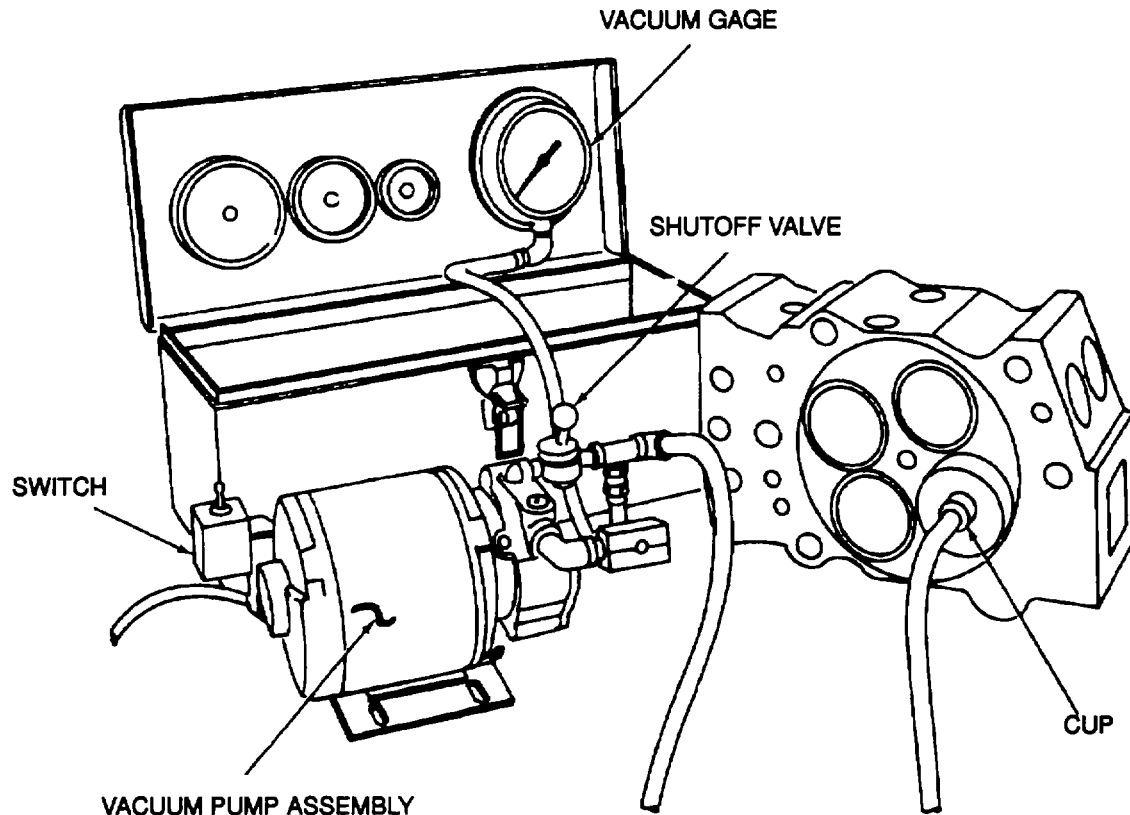

Figure 9-11. Vacuum Testing Valve Seats Using ST-1257
- (4) If necessary, add a maximum of two valve spring shims under the valve spring guide (4), to adjust the assembled valve spring height to not over 2.470 inches (62.74 mm).
- (5) If the correct valve spring assembled height cannot be obtained with two shims, the valve, the seat insert, or both the valve and the seat insert must be replaced. See paragraph 9-11 for valve seal insert replacement procedures.
- (6) Remove locks (1), seats (2), spring (3), and guide (4). Install shims (if necessary), guide (4), spring (3), and seat (2) over valve (5 or 6).
- (7) Using valve spring compressor ST-448-6, compress spring (3), and install new locks (1).
- (8) Install the remaining valves using steps (1) through (6), above.
- f. Vacuum Test. Check for satisfactory valve sealing using valve vacuum tester ST-1 257, as follows (see Figure 9-11):
- (2) Coat the seal with petrolatum VV-P-236, and place the cup over the valve so that the seal rests on the head surface (Figure 9-11).
- (3) Operate the vacuum pump to pull a vacuum of 18 to 25 inches Hg (60.8 to 84.4 kPa) over the head of the valve.
- (4) Close the shutoff valve, and time the vacuum drop from 18 to 8 inches Hg (60.8 kPa to 27.0 kPa).
- (5) If the elapsed time is less than 10 seconds, leakage is indicated. To be sure the valve is seated, tap the stem and of the valve with a soft, light hammer and retest.
- (6) If leakage is still indicated, remove the cup, and seal the outer edge of the valve seat insert and cylinder head joint with grease. Repeat the vacuum test (timing will not be necessary).
- (7) Remove the cup and examine the grease seal. If breaks in the grease seal are found, leakage is indicated between the valve seat insert and the cylinder head counterbore. Re-stake or replace the valve seat insert in accordance with paragraph 9-11.
- (8) If the grease seal is intact, leakage at the valve seat is indicated.
- (9) Lap the valve and seat lightly using lapping compound SS-L-1 682, and repeat the timed vacuum test. If leak down still occurs in under 10 seconds, a complete check of reseating equipment and operating procedures should be made; a properly finished seat will hold vacuum for 10 seconds or more.